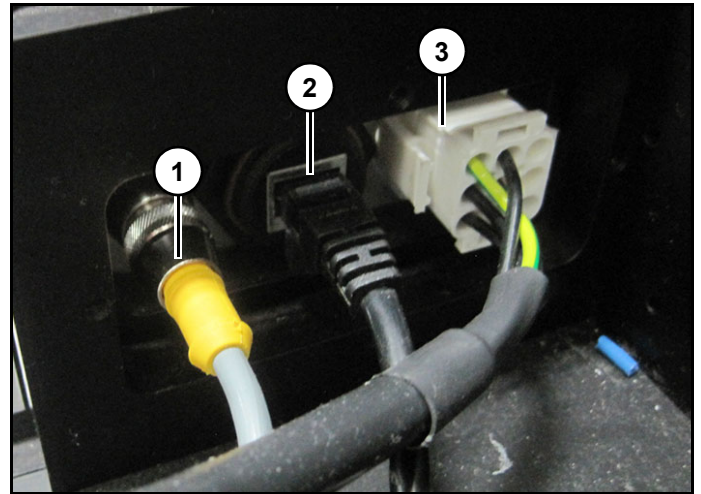

Figure 3
Each module has safety (1), network (2), and power cables (3) (Figure 3).